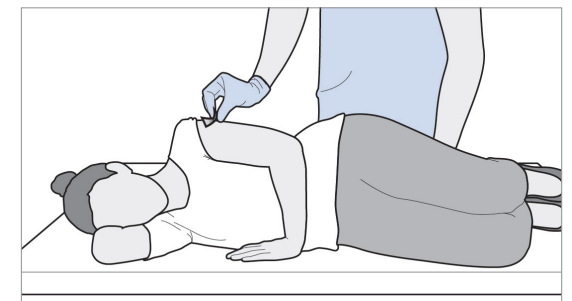

Figure 33 Alcohol Swab Injection Site
12. Swab the injection site with alcohol and allow to dry (see Figure 33).